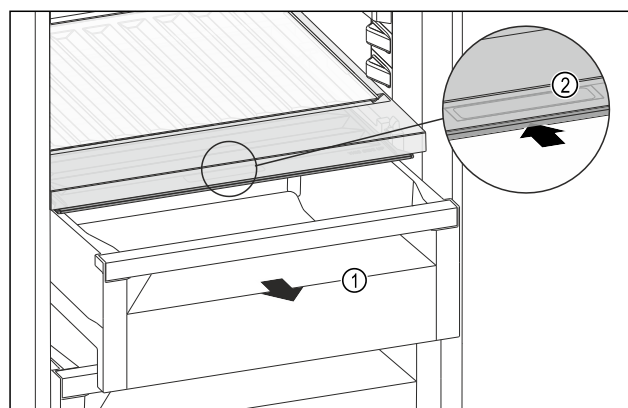

Fig. 96
- ▶ Pull out the drawer Fig. 96 (1).
- ▶ Grasp the recessed grip Fig. 96 (2) on the compartment lid and push the compartment lid backwards at the same time.